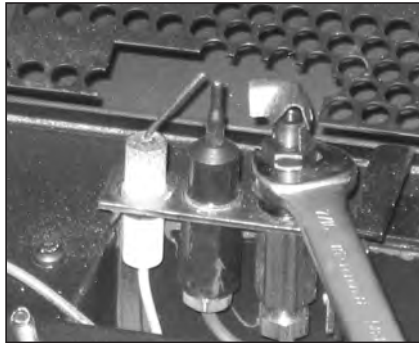

Figure 23: Turn Pilot Head.
- a) Using a 7/16" wrench, turn the pilot head a 1/4 turn counter-clockwise (shown in Figure 23).